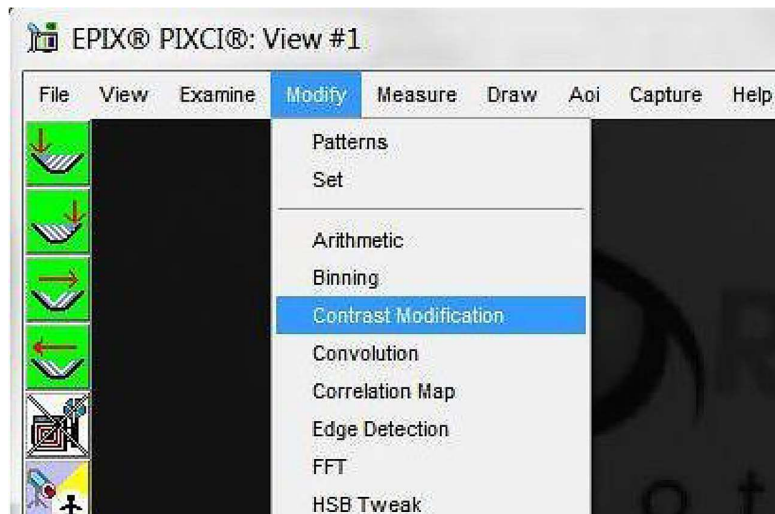

Figure 19: Contrast Modification
1. Go to the Modify/Contrast Modification menu, Figure 19.